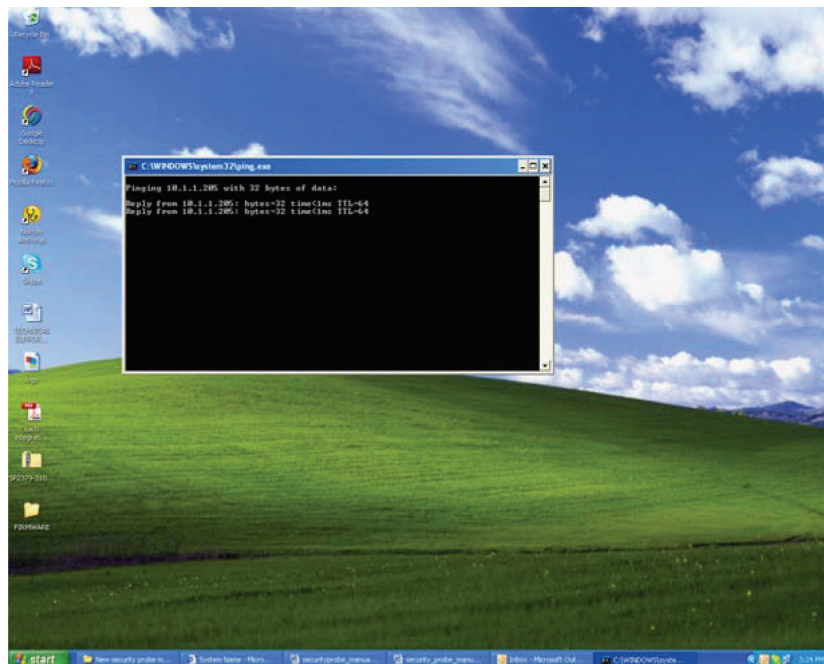

Figure 3-6. MS-DOS window.
4. After you press the “Enter” key, an MS-DOS® prompt window showing the test results appears (see Figure 3-6). If you get a message saying “request timed out,” either the IP address is incorrect or a ServSensor V4E is not connected to the network.